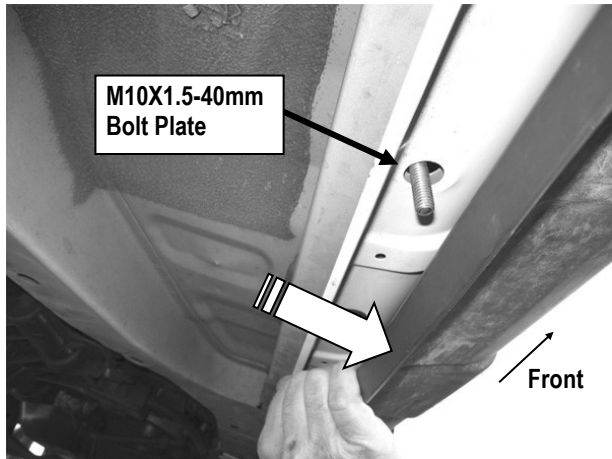

Fig 3
Mark the location of the factory hole onto the plastic rocker panel. Using a 7/16" drill bit, carefully drill through the marked location on the plastic panel, (Fig 3 & 4).
Gently pull the cover aside to insert (1) M10X1.5-40mm Bolt Plate into the factory hole in the body panel, (Fig 3). Once the Bolt Plate is in place, reposition the plastic rocker panel over the Bolt Plate and into the original position, (Fig 4). Secure with factory clips and metal screw.